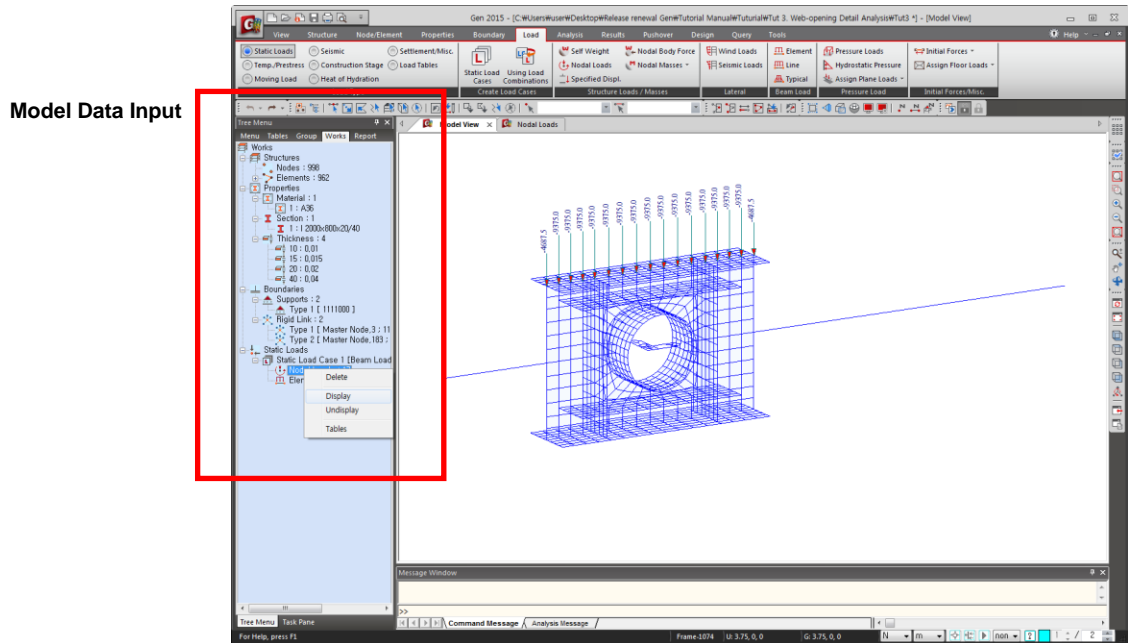

Figure 3.20 Complete Model
20. Confirm the Nodal Loads similarly following the steps 17 to 19 (Fig. 3.20).
Fig.3.20 shows the screen display after checking the uniform distributed and point loads above using *Works Tree*.